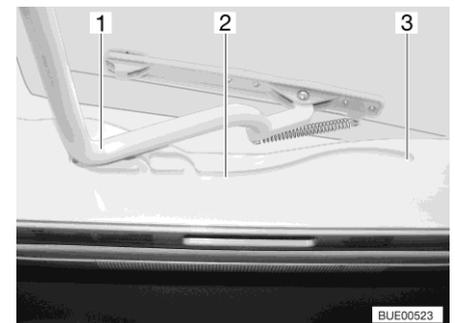

Fig. 81 Guide (Heki skylight)
- Pull the bar (Fig. 81,1) in the guides (Fig. 81,2) to the rearmost position (Fig. 81,3).
- Use both hands to push the bar (Fig. 81,1) slightly upwards.
- Pull the bar in the guides (Fig. 81,2) to the desired position.